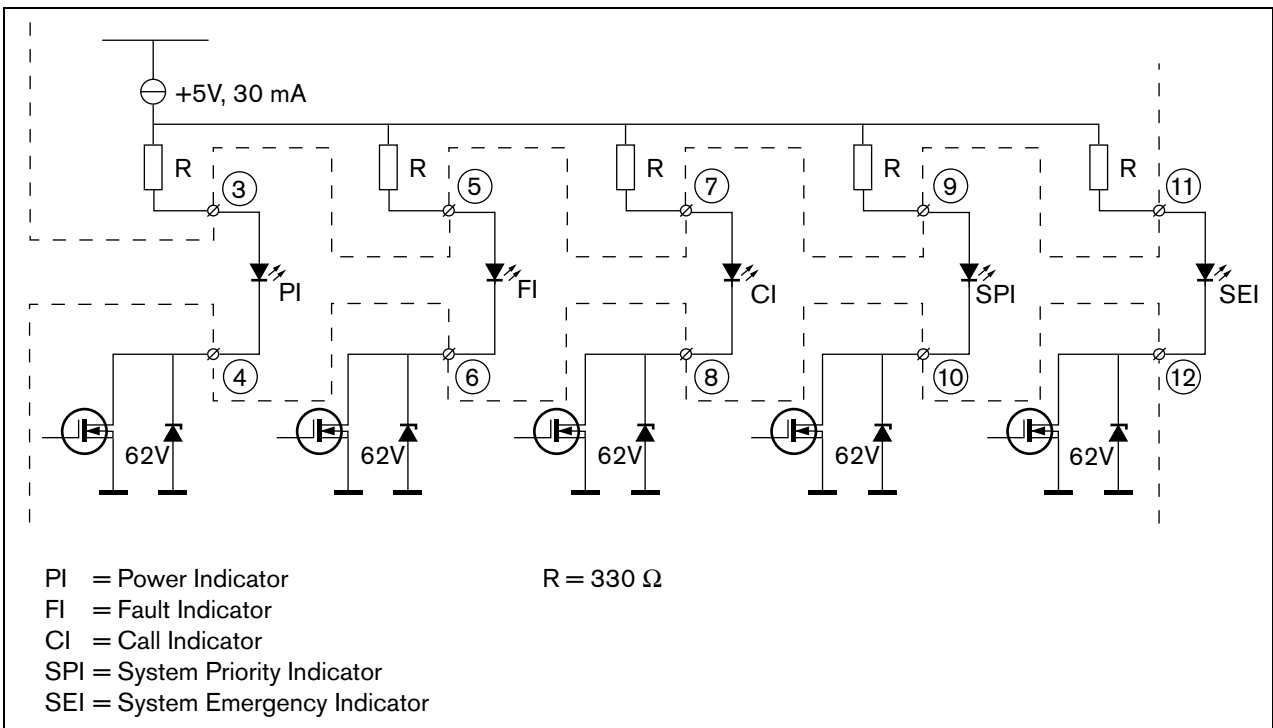

figure 21.9: Externally powered LED
- Internally powered lamp or LED. See figure 21.9 for a connection diagram.